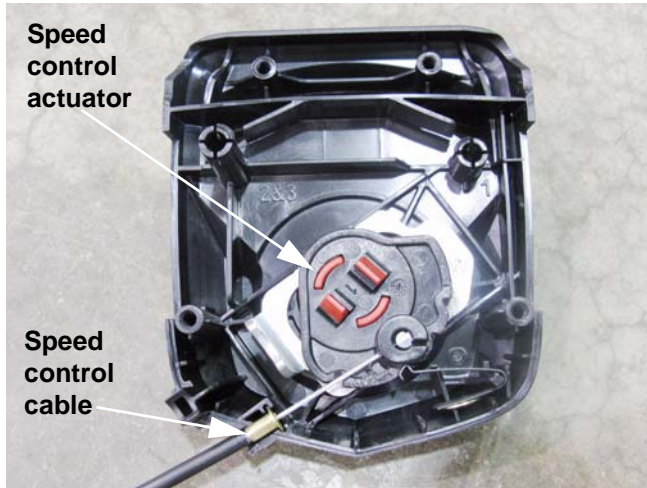

Figure 3.17
13. Lift the flanged end of the speed control cable out of its pocket in the control housing. See Figure 3.17.